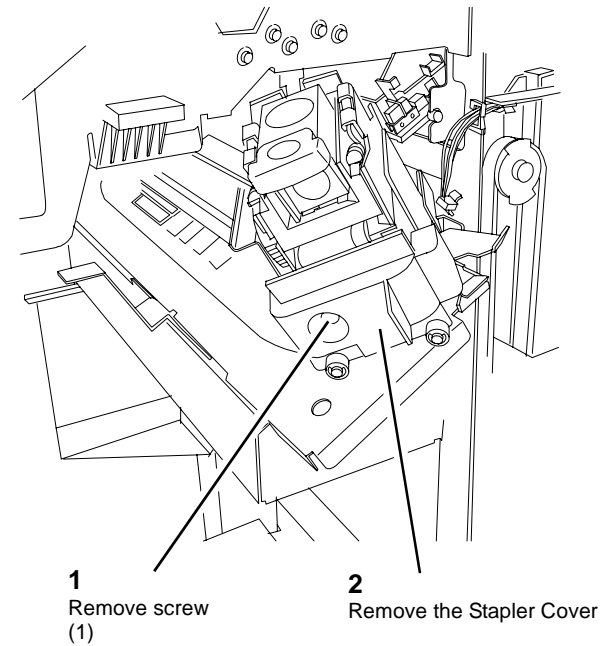

Figure 1 Removing the Stapler Cover
2. Remove Stapler Cover (Figure 1).